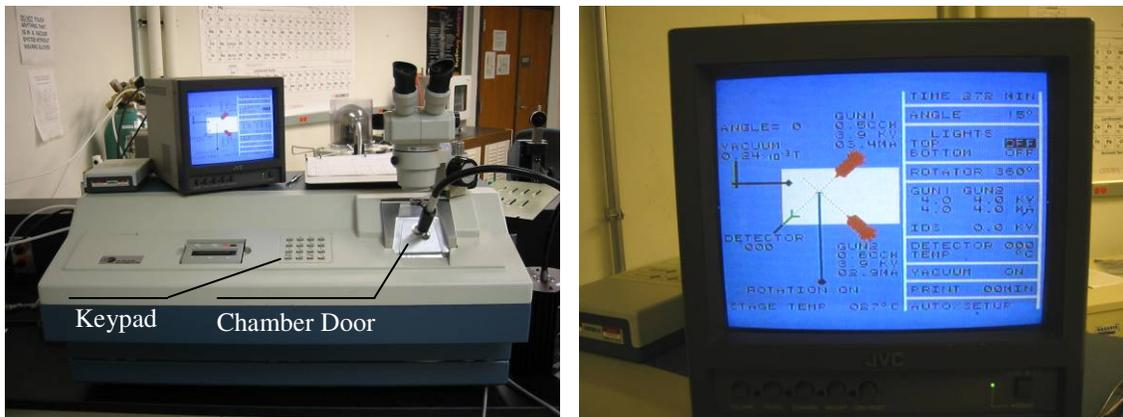

Figure 12 Fishione 3000 Ion Miller and display unit.
- (5) Switch on the power to the Ion Miller (switch located at the back of the instrument). If the milling chamber is in vacuum, go to 'vacuum' on the monitor screen (see Figure 12) using the keypad and press 'enter' to toggle status to 'off'. System will vent;